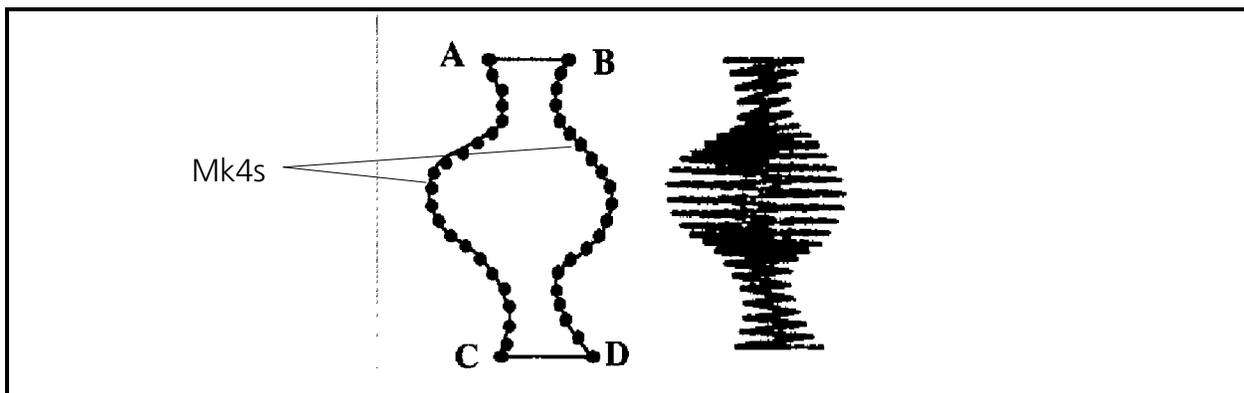

Figure 6-50
Another type of curve smoothing column digitizing is to define a side or sides using multiple Mk4s. The sample in Figure 6-50 illustrates this technique.
1. Refer to the Figure 6-50 and enter a Mk1 at point A and a Mk2 at point B to initiate the column.
The result of the above digitizing will yield a design similar to the one on the left in Figure 6-50.